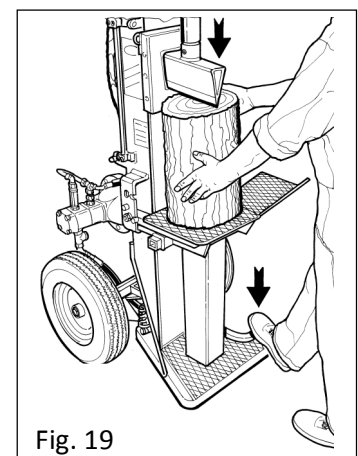

Fig. 19
- If the short log board is fitted, place the log vertically in the centre of the board, use the pedal command and hold the piece of wood still with both hands on the sides until the blade touches the piece of wood and stops automatically. (Fig. 19)